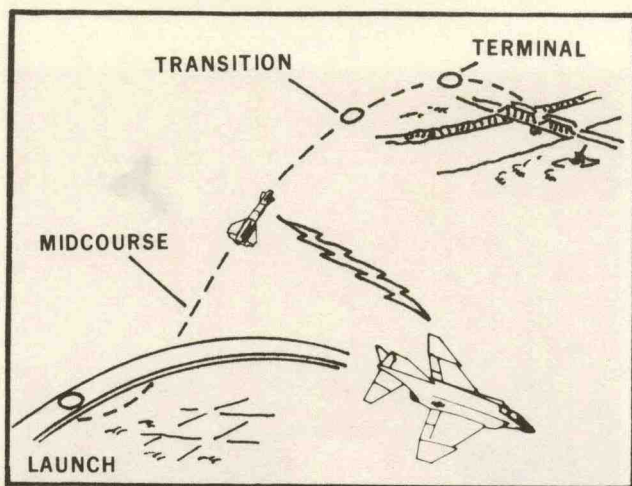

FIG. 3 GBU-15 DELIVERY PHASES
and terminal (see Figure 3). Immediately after launch, the weapon is in the midcourse phase. During this phase of flight, the WSO acquires the target area by searching with the TV seeker in the weapon through the radar control handle in the aircraft. The only control the WSO has over the weapon during midcourse is the capability to change the weapon heading by one degree increments. The WSO can keep the weapon on course if the weapon was off the correct course at launch, or if it has drifted off course because of a cross wind. The WSO actually flies the weapon using dead reckoning (DR) and the presentations on the TV scope as his only aids to navigation. The weapon spends the majority of its flight time in midcourse. Whenever the weapon reaches the end of the midcourse phase of flight, the transition phase of flight begins when the WSO selects Transition Enable on the control panel. The weapon is now able to respond in yaw whenever the WSO moves the radar control handle left or right. When the weapon reaches the correct dive angle, the weapon either enters the terminal phase automatically or the WSO selects Terminal on the control panel. The distinctive feature of the terminal phase is that the weapon is controlled solely by the WSO with the radar control handle in pitch as well as yaw. The weapon may be either locked on or manually guided to the target. Does all this sound too easy? Well, remember the GBU-15 is a glide weapon; should you launch it too far away from the target or have a headwind that you did not plan for, you will have a short bomb. In other words, aircrew mission planning must take into consideration winds, D value, cloud cover, and target characteristics when computing the